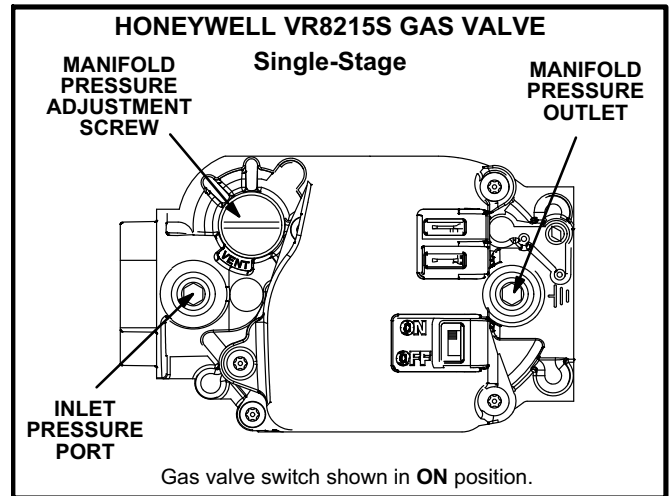

FIGURE 25
Gas Valve Operation (figure 25 and 26)
- 5- Move gas valve switch to **OFF**. See figure 25 or 26.
- 6- Wait five (5) minutes to clear out any gas. If you then smell gas, **STOP!** Immediately call your gas supplier from a neighbor's phone. Follow the gas supplier's instructions. If you do not smell gas, go to the next step.
- 7- Move gas valve switch to **ON**. See figure 25 or 26.